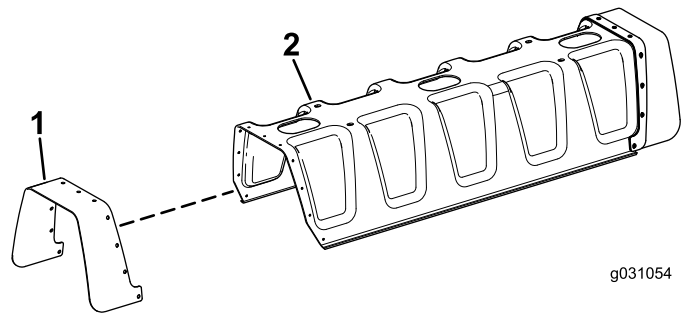

Figure 2
1. Align the holes on the rubber cover with the holes on the center-boom cover (Figure 2).